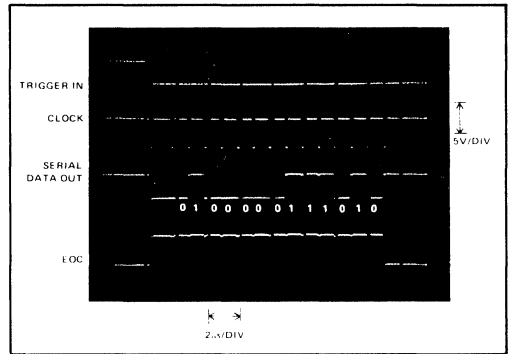

Figure 2. Typical Timing Diagram. (MP8014 shown)
As shown in Figure 2 for the MP8014 converter, the negative-going edge ("1" to "0" transition) of the TRIGGER pulse enables: (1) EOC to high, (2) B1 to High (B1 to Low), (3) all other bit outputs (B2 to B14) to Low and (4) CLOCK pulse train. Conversion begins when the negative-going edge of the first clock pulse goes to Low. The bit decisions are made on successive negative-going pulse transitions with the MSB bit occurring at the second clock pulse.